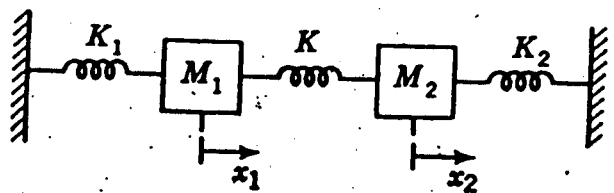

Figure 8.
8. Write the necessary equations to describe the motion of two masses between three springs as shown in Figure 8.